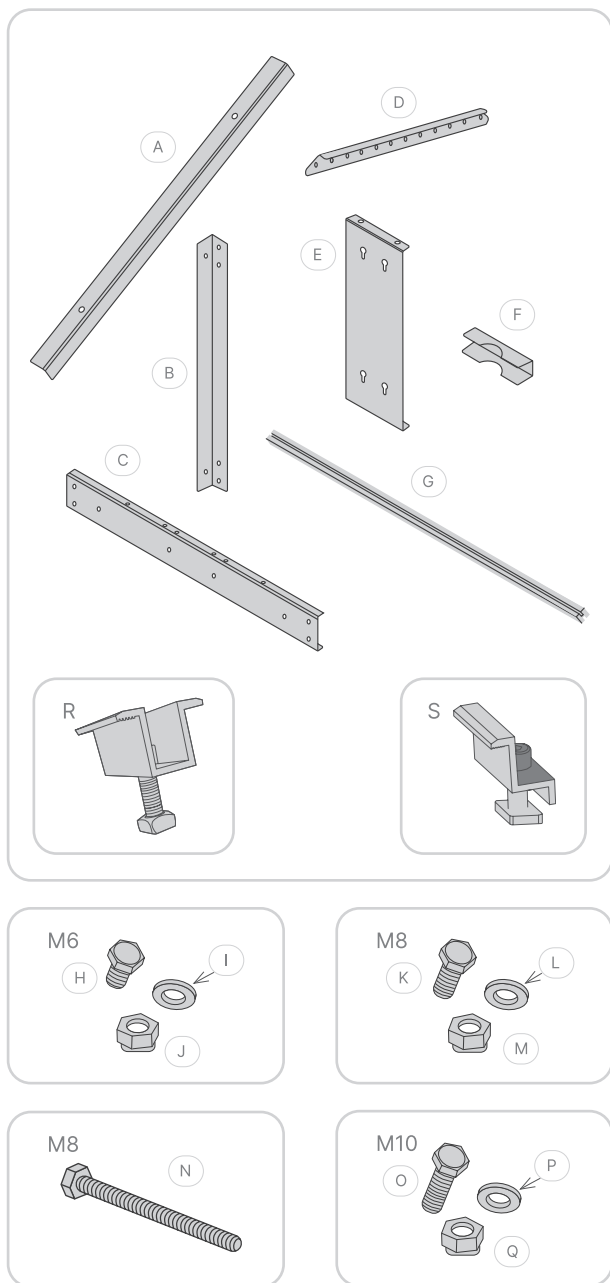

Figure 1. Mechanical parts.
Unpack the Small Solar Panel Mounting Structure and ensure the are included in the packaging. See **Figure 1** for reference:
For installation of solar panels, use (R) and (S) as referred in the Inventory of package, Figure 1.